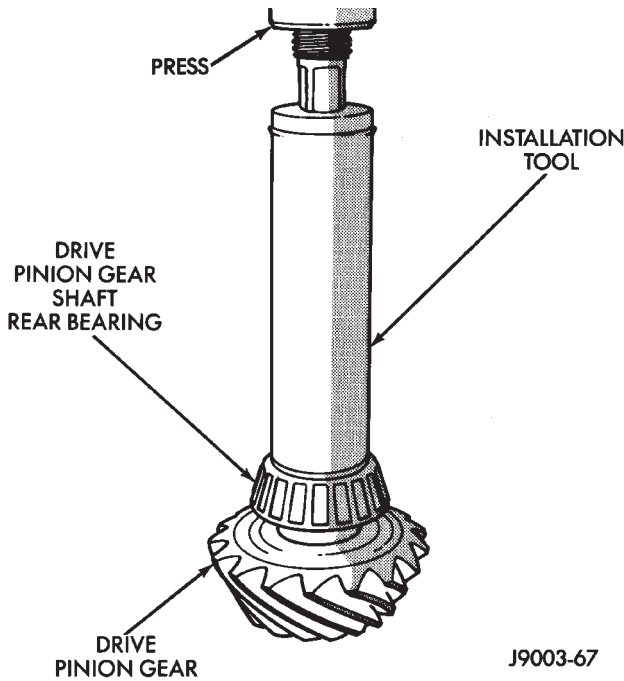

Fig. 43 Shaft Rear Bearing Installation
(7) Place the proper thickness depth shim on the pinion gear.
(8) Install the rear bearing and slinger, if equipped, on the pinion gear with Installer W-262 (Fig. 43).